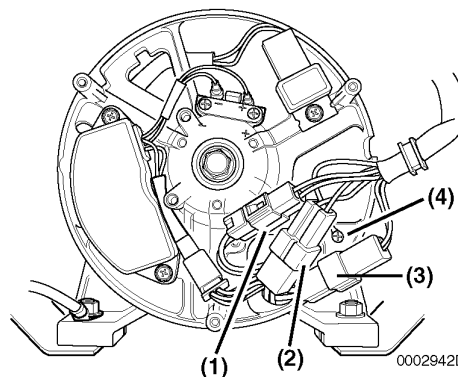

Figure 7-30
Note: YDG3700EV-6EI and YDG5500EV-6EI models use three separate two terminal connectors (**Figure 7-30, (1, 2, 3)**) from the control panel and one ground wire (**Figure 7-30, (4)**) fastened to the rear housing.